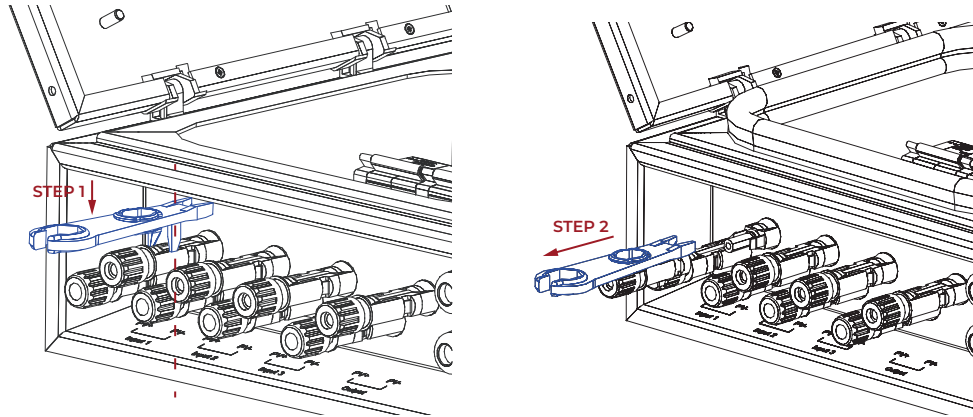

Figure 4-9 Removing PV Connectors
1. Insert the spanner into the holes in the body of the connector, fig. 4-9 step 1.
2. Pull the connector out to remove the connector, fig. 4-9 step 2.